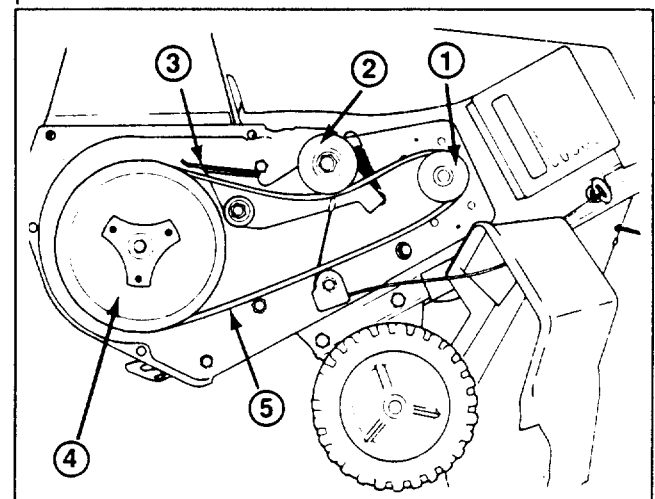

Figure 14
5. REMOVING BELT (Fig. 14) – Slip belt off idler pulley. Push idler pulley downward, and slip belt from rotor pulley, idler pulley, and engine pulley.
6. INSTALLING BELT (Fig. 14) – Loop belt around rotor pulley and engine pulley first without slipping belt between rotor pulley and brake. Next, push idler pulley downward and slide belt between rotor pulley and brake. Release idler pulley, and slip belt under idler pulley.